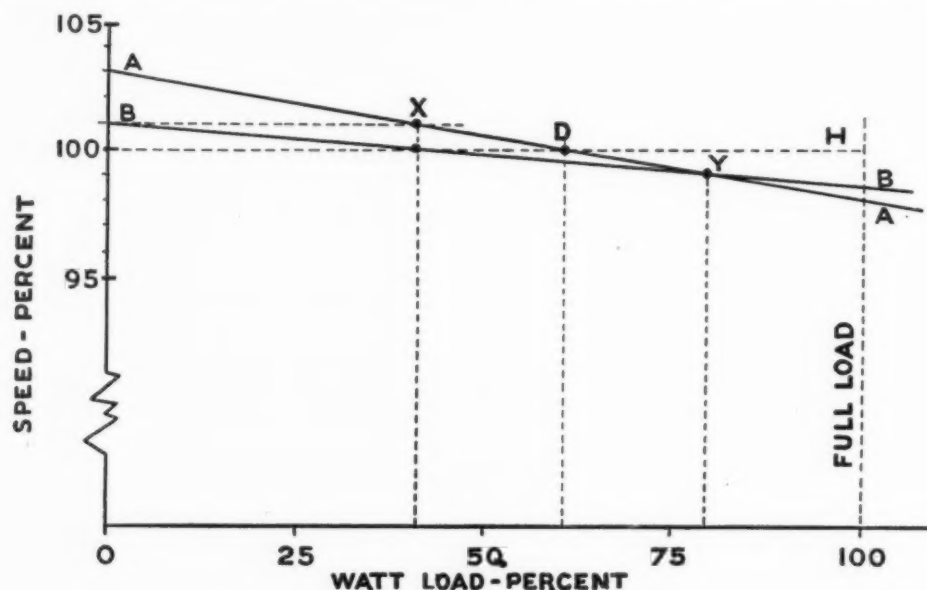

Fig. 1. Speed vs. load characteristics of two engines A and B when speed droops are not identical.
3. To secure proportional load division at all loads on units controlled as above, the *speed droops* must be identical and load must be *proportionately divided* at some one load condition by proper manipulation of the governor control switch. See Fig. 1. Rate of change of speed of units should be nearly the same or hunting may result. Decreasing sensitivity setting of the unit or the units with too fast response will correct this. Load division will then be correct at all loads.